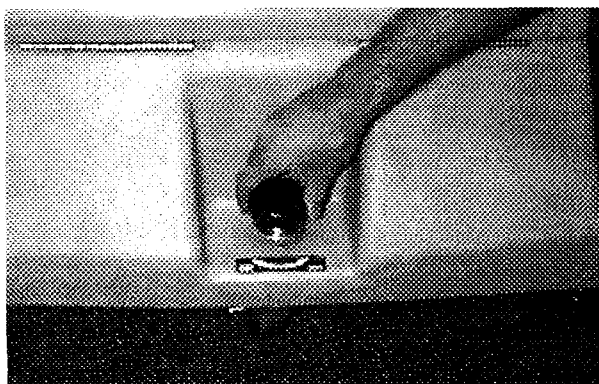

FIG. 5.
3. Adjust brush to proper height. To adjust brush, turn off power switch and rotate brush adjustment knob until brush bristles slightly deflect creating a "flicking" action. (Figure 5)